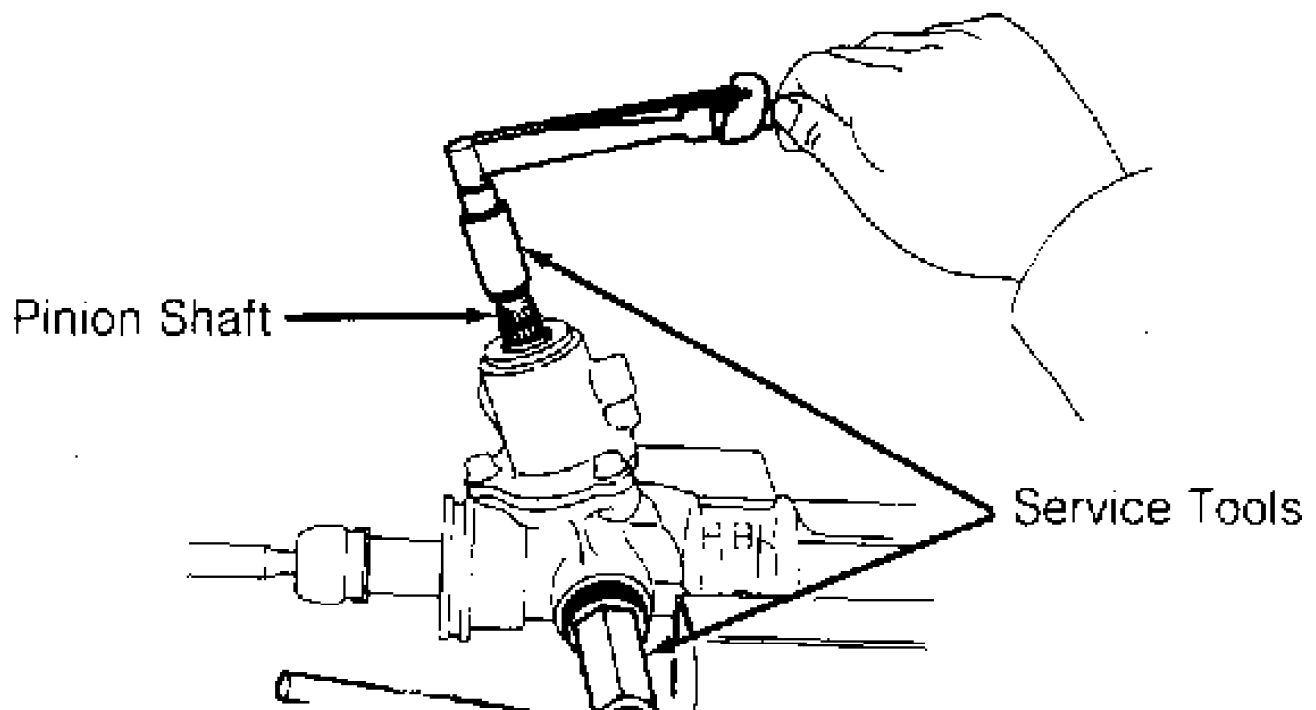

Fig. 7: Setting Rack & Pinion Total Preload
(0.8-1.3 N.m). See Fig. 7. Apply liquid sealer to threads of lock nut and install. Tighten lock nut 43 ft. lbs. (58 N.m). Recheck preload and ensure preload has not changed.
7) Apply liquid sealer to bearing guide nut and install. Using Hexagon Wrench (09612-10022) torque guide nut to 11 ft. lbs. (15 N.m). Loosen bearing guide nut until a turning preload of 3.9-5.6 INCH lbs. (0.4-0.6 N.m) is reached. See Fig. 7. Apply liquid sealer to bearing guide lock nut. Using Lock Nut Wrench (09617-24020), install lock nut and tighten to 41 ft. lbs. (56 N.m).